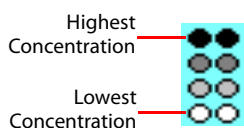

Figure 7-21: Concentration Representation in Dilution Series
3. Select the appropriate dilution orientation (see Figure 7-21).